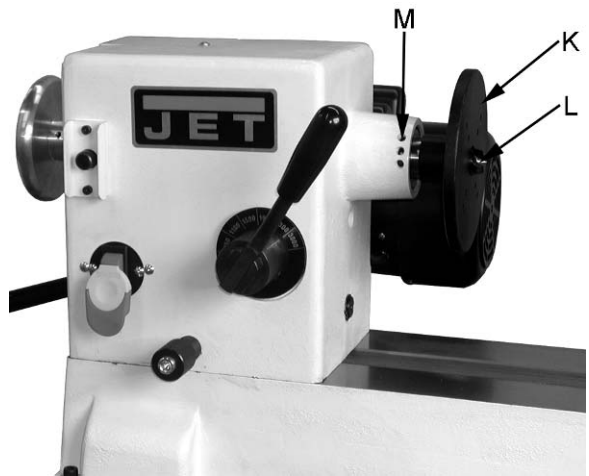

Figure 7
K. **Headstock Faceplate:** (K, Fig. 7)
L. **Headstock Spur Center:** (L, Fig. 7)
M. **Headstock Indexing Hole:** (M, Fig. 7)